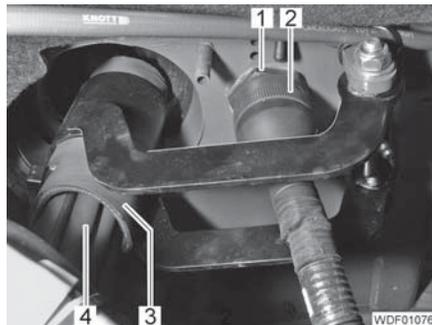

Fig. 337 Underside of the cab
- Unplug the connector (Fig. 337,2).
- Carefully disconnect the hydraulic lines (Fig. 337,4) of the control hydraulic.